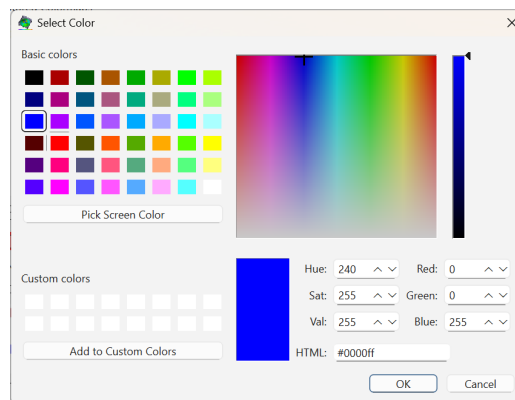

Figure 25.5: Color chooser.
- Color maps have two or more *control points* at specified indices. Colors are linear interpolated between control points in either **RGB** or **HSV** color space. The color at each control point can be selected by clicking on the **Color** sample to show the color chooser dialog (Fig. 25.5).